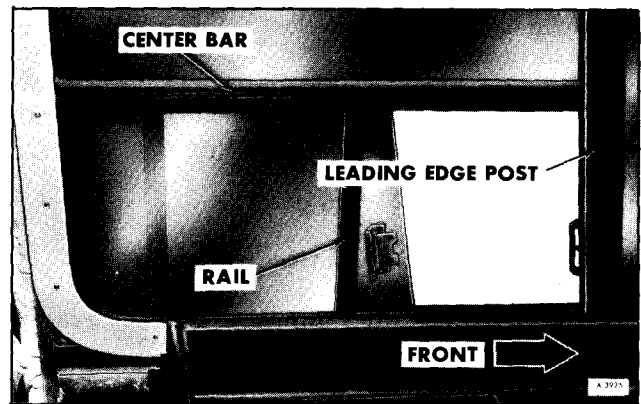

Figure 22—"A" Window
2. Remove leading edge post from frame, Figure 22.